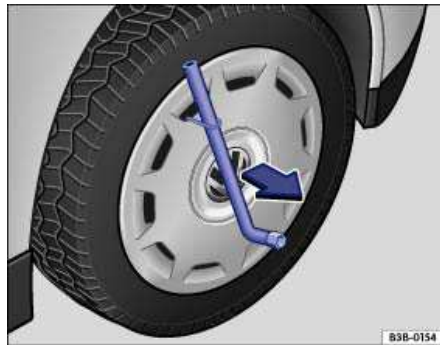

Fig. 167 Pulling the wheel cover off.
- Slide the lug wrench through the clip ⇒ fig. 167 and pull the wheel cover off in the direction of the arrow.